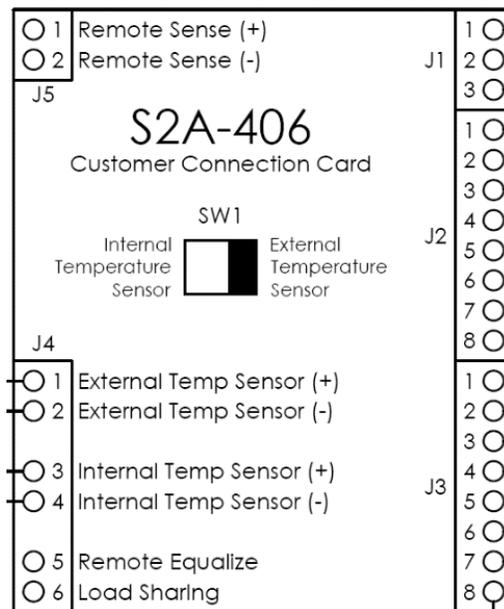

Figure 14 – S2A-406 Board Connections
3. Connect terminal 6 of J4 of one charger to terminal 6 of J4 of the next charger. This connection can be made with a 16 AWG wire. Refer to Figure 14.
A terminal is provided on charger for a Remote Equalize function. For chargers equipped with TS-5 Terminal, the Remote Equalize terminal is labeled "RE" and is located on the TS-5 terminal as shown on Figure 13. For chargers with the S2A-406 board, the Remote Equalize terminal is on terminal 5 of J4 as shown on Figure 14. Connections can be made by using a 16 AWG wire. The charger may be remotely forced into Equalize by connecting the Remote Equalize terminal to negative.